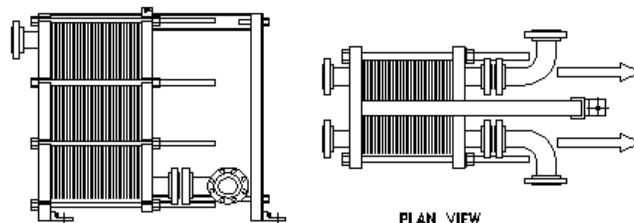

Figure 2.3 Mobile Head Fitted with Spool Nozzles
- Nozzles located at the mobile head must be installed with spool pieces as shown in figure 2.3, to allow the head to move fully backward.